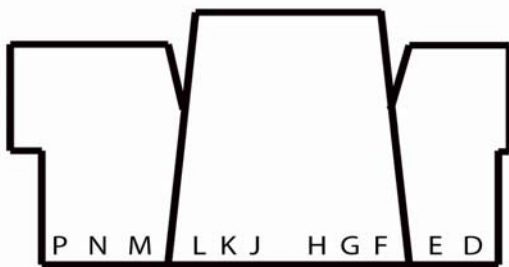

Figure 2-1
5. Match factory wire with new terminal to appropriate slot on connector (Figure 2-1).
11. Once holes have been drilled, support bracket and column seal can be mounted to firewall as shown in illustration. (Figure 2-1)